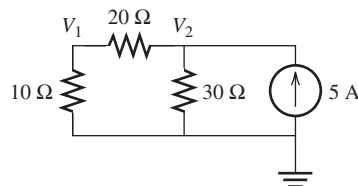

FIGURE P3.35 Circuit for Problem 3.35.
- 3.35** (B)* Find V_1 and V_2 in Figure P3.35.